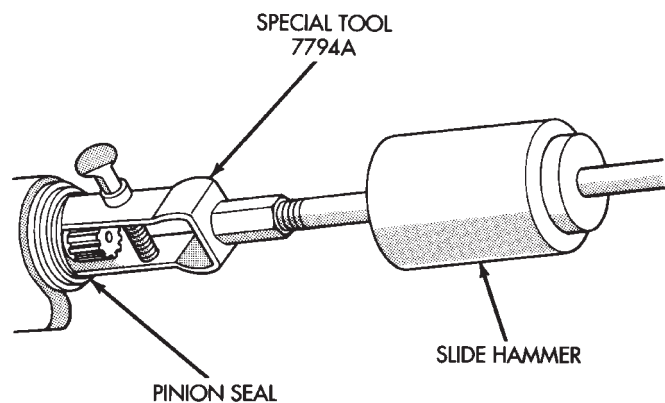

Fig. 14 Seal Removal
- (1) Raise and support the vehicle.
- (2) Remove wheel and tire assemblies.
- (3) Remove brake rotors and calipers. Refer to Group 5, Brakes, for proper procedures.
- (4) Mark the propeller shaft and pinion companion flange for installation reference.
- (5) Remove the propeller shaft from the pinion companion flange.
- (6) Rotate the pinion gear a minimum of ten times. Verify that the pinion rotates smoothly.
- (7) Measure the amount of torque necessary to rotate the pinion gear with a (in. lbs.) dial-type torque wrench. Record the torque reading for installation reference.
- (8) Using a short piece of pipe and Holder 6958 to hold the pinion companion flange, remove the pinion nut and washer.
- (9) Use Remover C-452 and Wrench C-3281 to remove the pinion companion flange.
- (10) Use Remover 7794-A and slide hammer to remove the pinion shaft seal (Fig. 14).
- (11) Remove the front pinion bearing using a pair of suitable pick tools to pull the bearing straight off the pinion gear shaft. It may be necessary to lightly tap the end of the pinion gear with a rawhide or rubber mallet if the bearing becomes bound on the pinion shaft.
- (12) Remove the collapsible spacer.